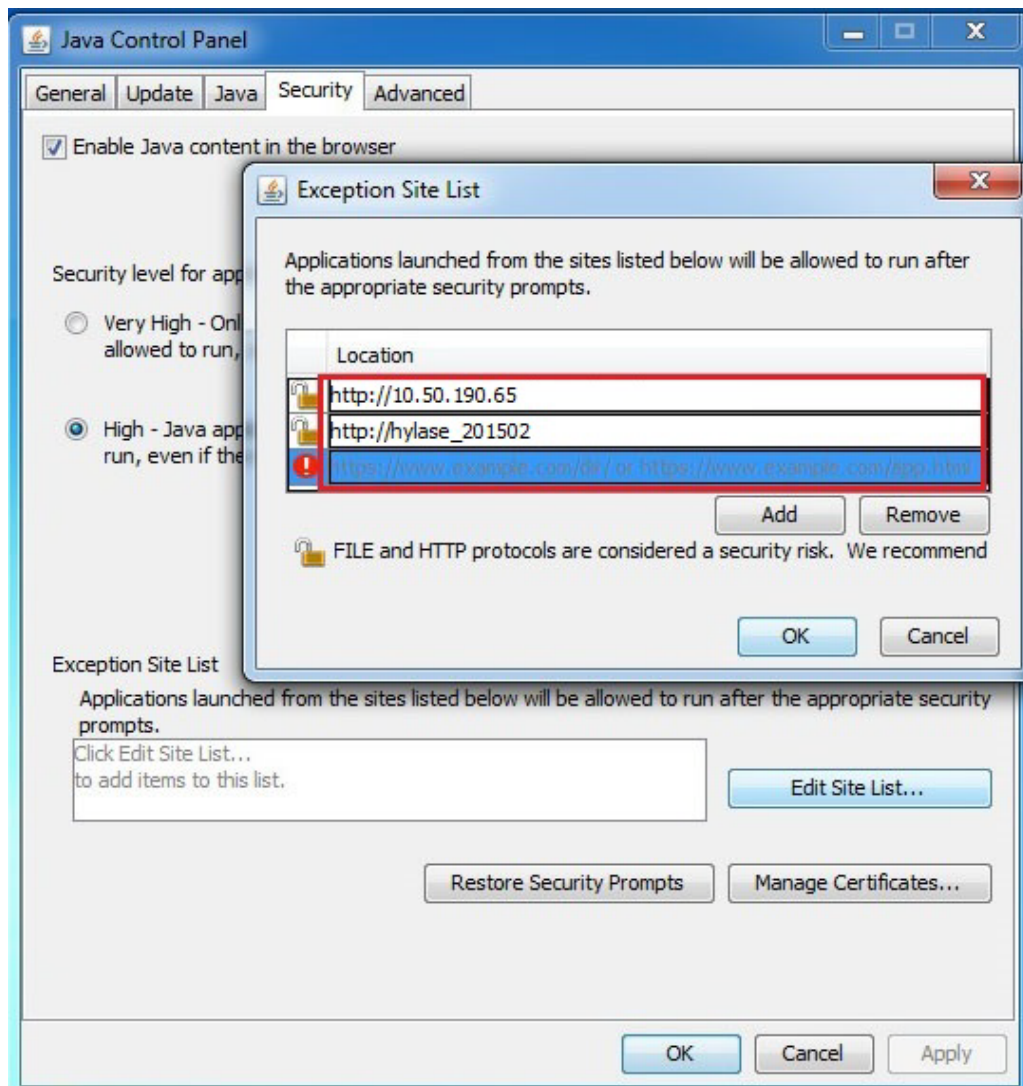

fig. 3
2. Click **Add** in the Exception Site List window (**fig. 3**),